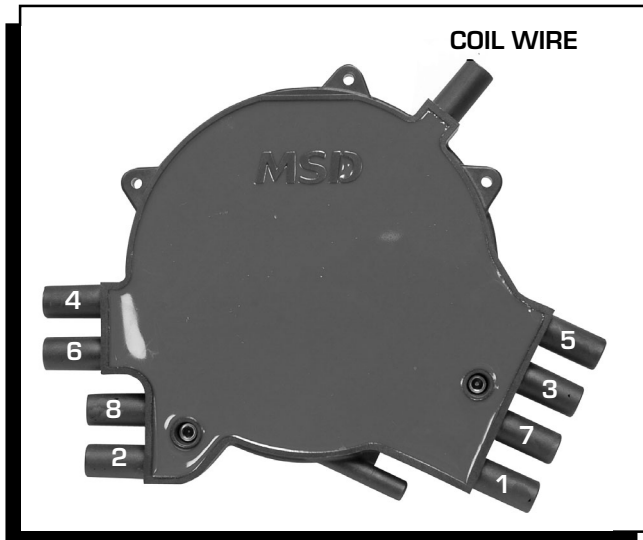

Figure 10 Spark Plug Wire Location.
6. Connect the distributor connector followed by the coil wire and spark plug wires. Ensure that each wire is in the correct location (Figure 10).
5. Install the spark plug wires ensuring they are routed to the correct terminal (Figure 10).